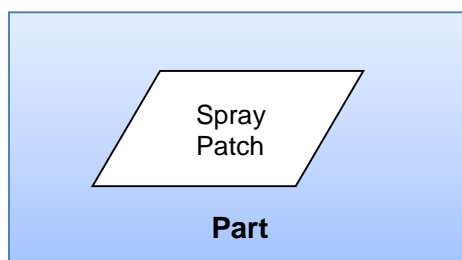

Figure 1. Schematic of spray patch preparation
3. A hard line for sanding can be created with masking tape by putting a tapeline approximately 1/16th to 1/8th inch inside of the sanding preparation area (Figure 1). Spraying the patch to the tape edge will create a spray line (hard line) on tape removal. Rectangular patch areas allow for easier tape layout however, other patch area geometries such as a parallelogram, can be used.